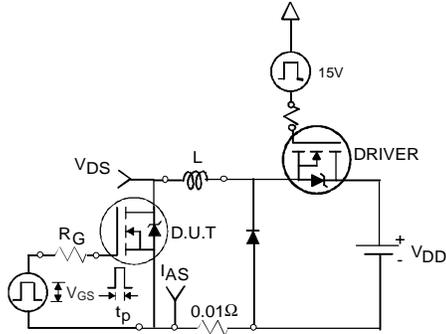

Fig 12a. Unclamped Inductive Test Circuit
- ③ Pulse width ≤ 400μs; duty cycle ≤ 2%.
- ④ C_{oss eff.} is a fixed capacitance that gives the same charging time as C_{oss} while V_{DS} is rising from 0 to 80% V_{DSS}.
- ⑤ Limited by T_{Jmax}, see Fig.12a, 12b, 15, 16 for typical repetitive avalanche performance.
- ⑥ This value determined from sample failure population. 100% tested to this value in production.
3. Equation below based on circuit and waveforms shown in Figures 12a, 12b.